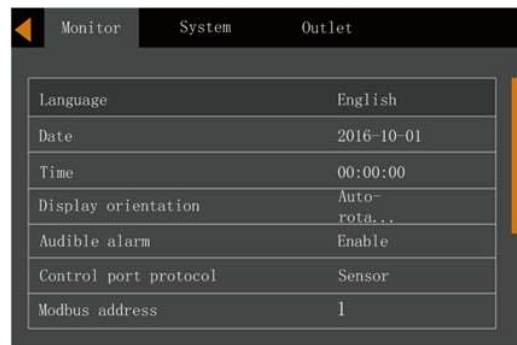

Figure 5-24 Monitor interface
1. Press the  key to move the cursor to the 'Monitor' page, see Figure 5-24.